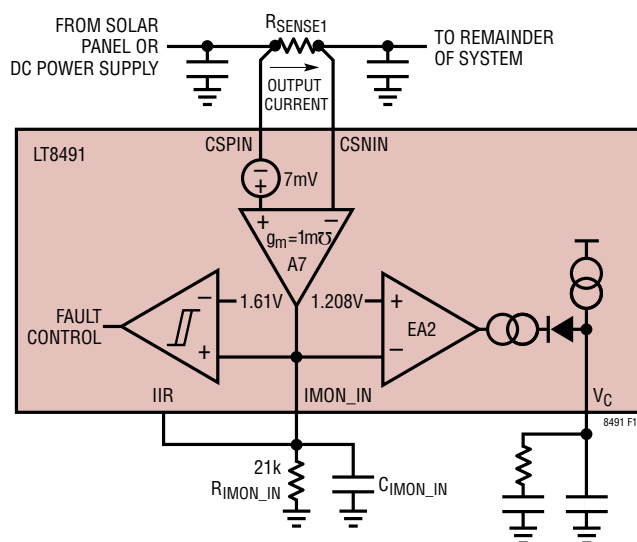
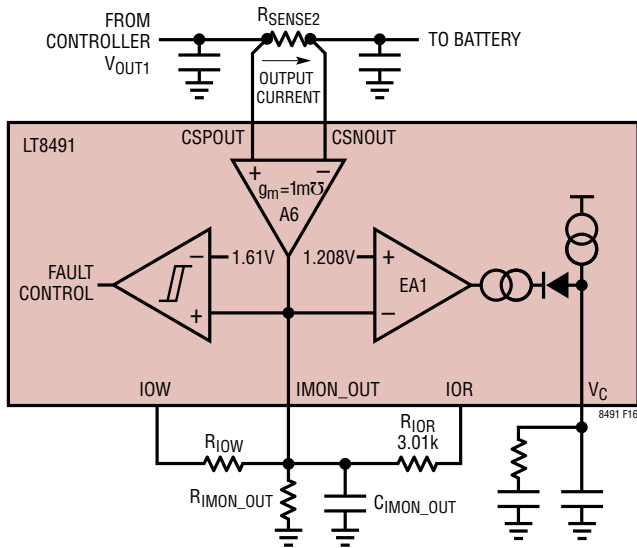
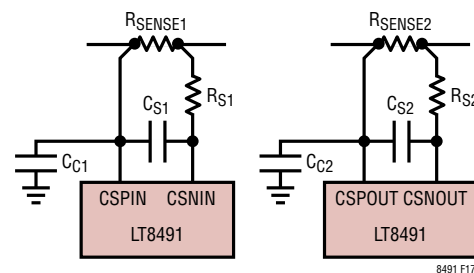

Figure 15. Input Current Regulation Loop
Figure 16. Output Current Regulation Loop
Figure 17. Recommended Current Sense Filter
In addition, note that the LT8491 uses the same circuit (shown in Figure 15) to measure the input current as to limit it. The input current is measured by an A/D conversion of the IIR pin which is connected to IMON\_IN and is proportional to input current. The digitized input current measurement is used to locate the maximum power point of the solar panel. Setting a higher input current limit reduces the resolution of the digitized reading of the input current. Avoid setting the input current limit significantly higher than necessary, as this may affect the accuracy of the maximum power point calculations.
**Configuring the Input Current Sense and Limit:** The input current is sensed through  $R_{SENSE1}$  as shown in Figure 15. The current through  $R_{SENSE1}$  is converted to a voltage on the IMON\_IN pin according to the following equation:
The maximum battery charging current, commonly referred to as C, is configured with the output current sensing and limiting circuit. The output current is sensed through  $R_{SENSE2}$  and converted to a proportional current flowing out of the IMON\_OUT pin (see Figure 16). An A/D measurement of the IOR pin voltage is used to determine
The CSX and RSX current sense filter components shown in Figure 17 can improve the accuracy of the input and output current measurements at low average current levels. Amplifiers A6 and A7 (Figure 15 and Figure 16) can only amplify positive RSENSE voltages. Although the average RSENSE voltage is always positive, the voltage ripple at low average current levels may contain negative components that are averaged out by the filter. Recommended values for RS1, RS2 and CS1, CS2 are 22Ω and 470nF.